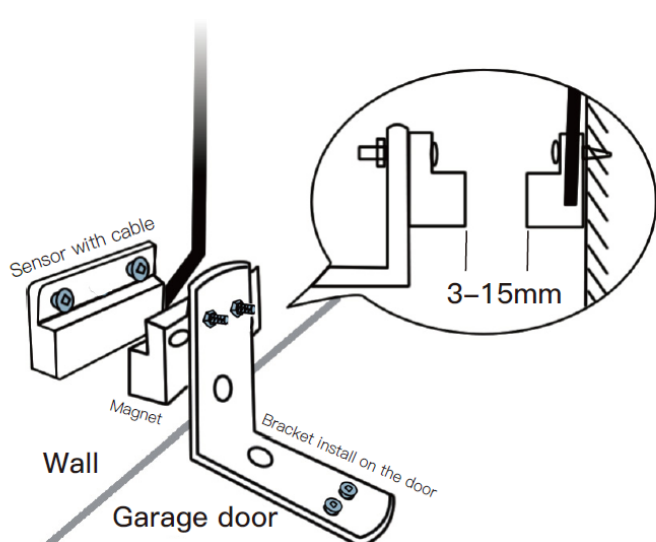

Fig. 2
2.1 Install the sensor in such a way that the one with cables and the one without cables are close to each other when the door is closed. If there is only one moving part, it is advisable to place the one without cables on it (Fig. 2 and 3).